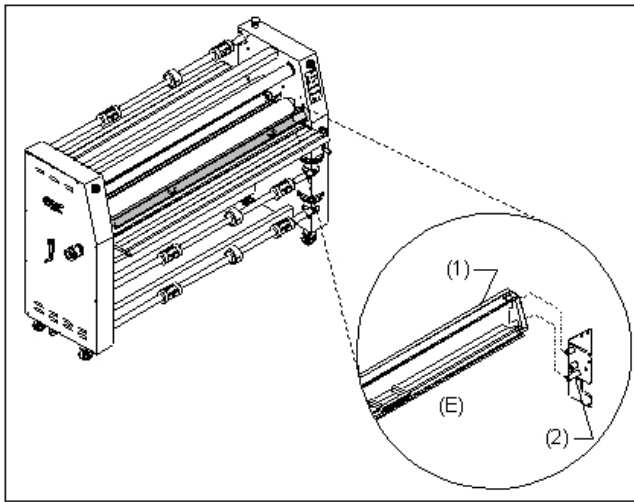

Fig 11
F. SAFETY SHIELD: (Figure 11) Prevents entanglement, entrapment and inadvertent contact with the heat rollers. **The laminator will operate normally only when the Safety Shield is located in the fully locked and closed position. When shield is open, the laminator will only run at 1 mpm (approximately 3.25 ft/m).**